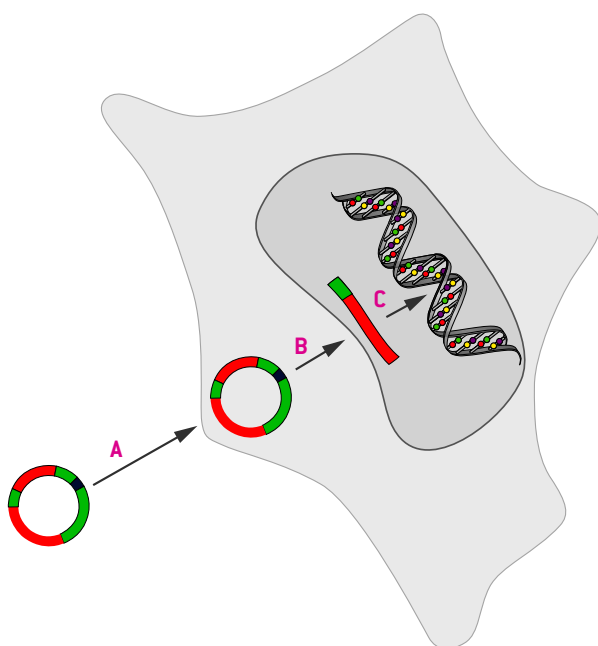

Figure 1. The general path of stable integration.
The selection of an appropriate expression vector is crucial for efficient gene expression. Just take a look at Figure 1. We tried 10 different vectors expressing the same luciferase gene in different backbones and expression cassettes and obtained highly variable expression levels.
Figure 1. Luciferase expression levels depend on vector backbones. We looked at luciferase expression at 4, 24 and 48 hours in THP-1 and HUVEC cells. The amount of DNA was held at equimolar amounts based on plasmid size. For THP-1, the DNA amount ranged from 0.3–0.5 µg per reaction (A). For HUVECs, we used 2.5–4.4 µg of plasmid (B).
Initially, the gene of interest has to be introduced into the cell [A], subsequently into the nucleus [B], and finally, it has to be integrated into chromosomal DNA [C] (Figure 1). Since chromosomal integration into host chromosomes is a rare event, stably-transfected cells usually have to be selected and cultured in various ways. For the selection of stably-transfected cells, a selection marker is co-expressed on either the same construct or on a second, co-transfected vector. A variety of systems for selecting transfected cells exists, including resistance to antibiotics, such as neomycin phosphotransferase, conferring resistance to G418, dihydrofolate reductase (DHFR), or glutamine synthetase [Southern and Berg, 1982]. After gene transfer, cells are cultivated in medium containing the selective agent. Only those cells which have integrated the plasmid containing the drug resistant gene survive.